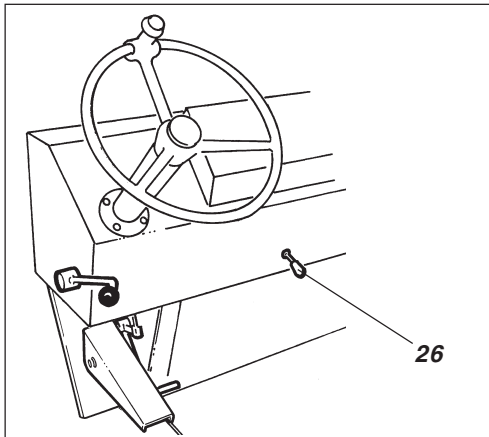

Fig. 19 Operator's station
Tire pressure can be checked with the tire pressure gauge (8). Move the control valve lever (26, fig. 19) to its middle position. Up to increase and down to reduce (optional).